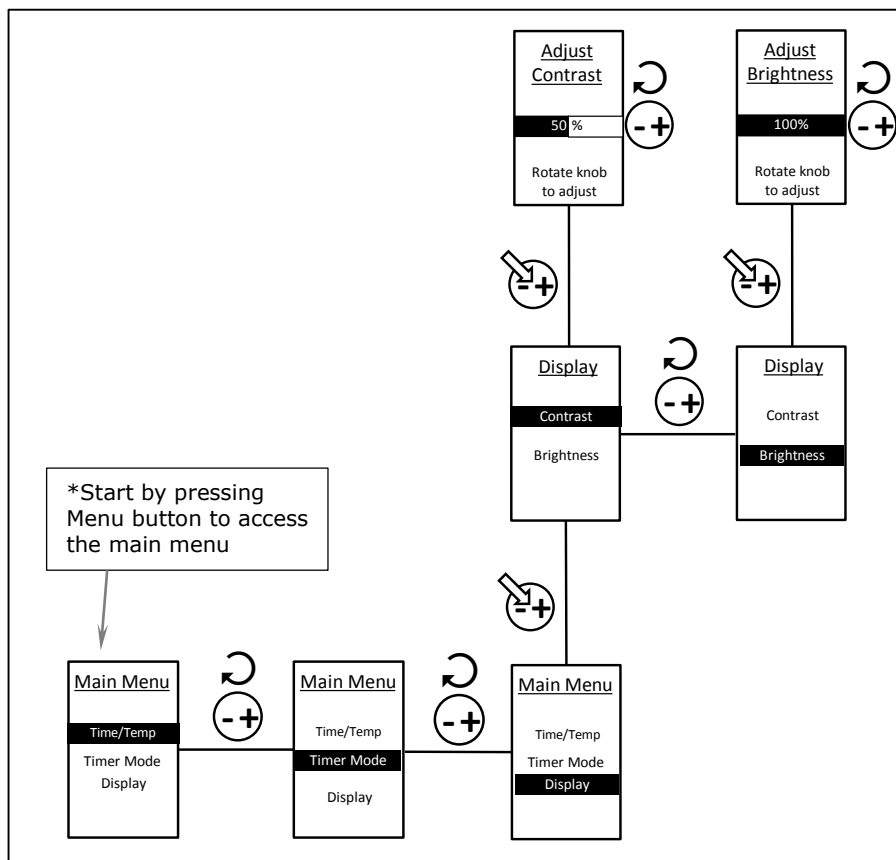

Figure 19: How to Adjust the Display Settings of the User Interface
- display settings (see Figure 19)